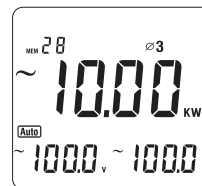

Figure 11
- After the sum up the current power measurement value of the second phase, then press **SELECT** again to choose the third phase $\Phi 3$, as figure 11.
- After the sum up the current power measurement value of the second phase, then press **SELECT** again to choose the third phase $\varnothing 3$, as figure 11.